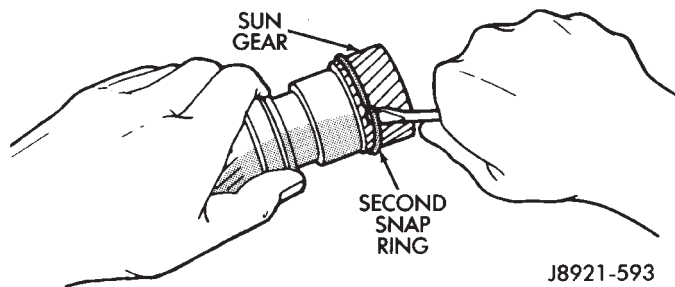

Fig. 265 Removing/Installing Second Snap Ring
(6) Remove remaining snap ring from sun gear (Fig. 265).